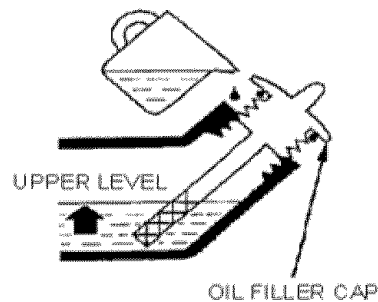

Figure 2- Adding oil
3. Using a funnel, add 37 fluid ounces of oil into the crankcase. You will know the crankcase is full when the oil level has reached the lower lip of the opening you have just poured the oil into (see figure 2).